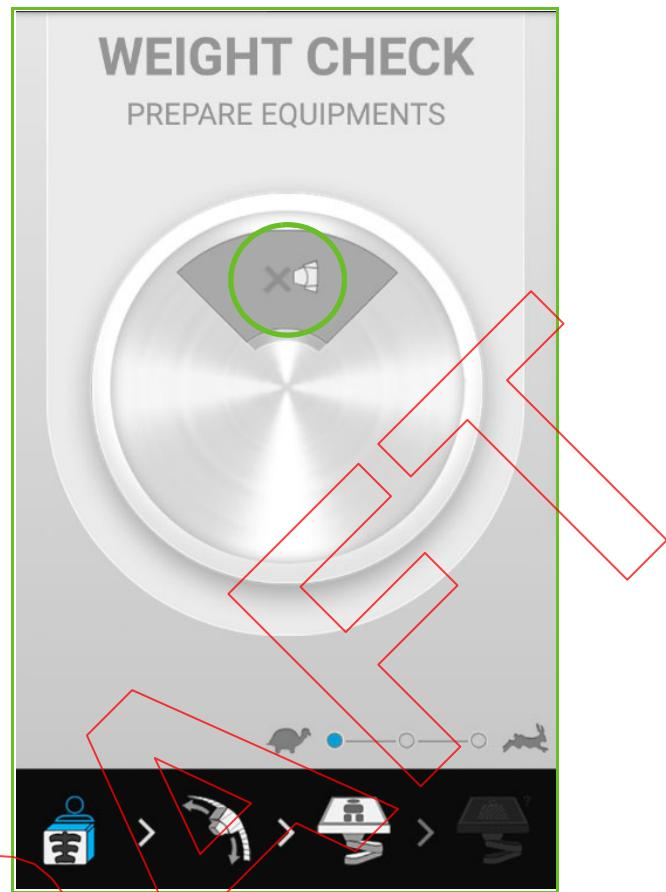

Figure 46-8. Automatic weight check - Retract imager
- a. Retract the imager by pressing the **Retract Imager** ( icon (Figure 46-8).